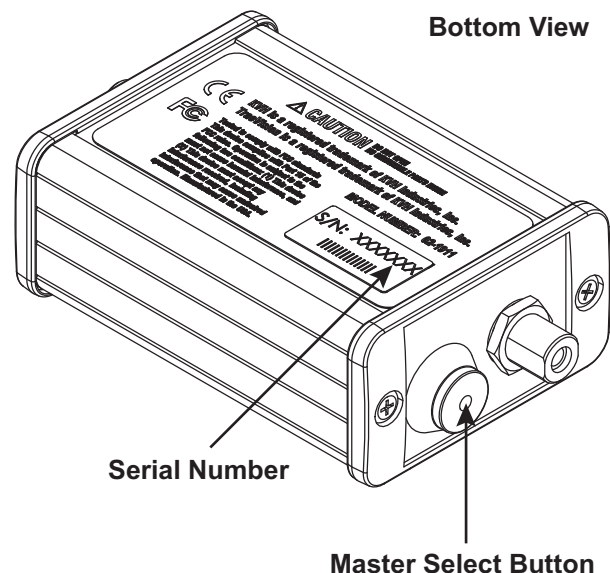

Figure 2: Serial Number and Master Select Button
- Locate the serial number on the bottom of the IP AutoSwitch (see Figure 2) and record it in the space below. You will need this number later.
- Provides a clear view of and easy access to the Master Select button (see Figure 2)